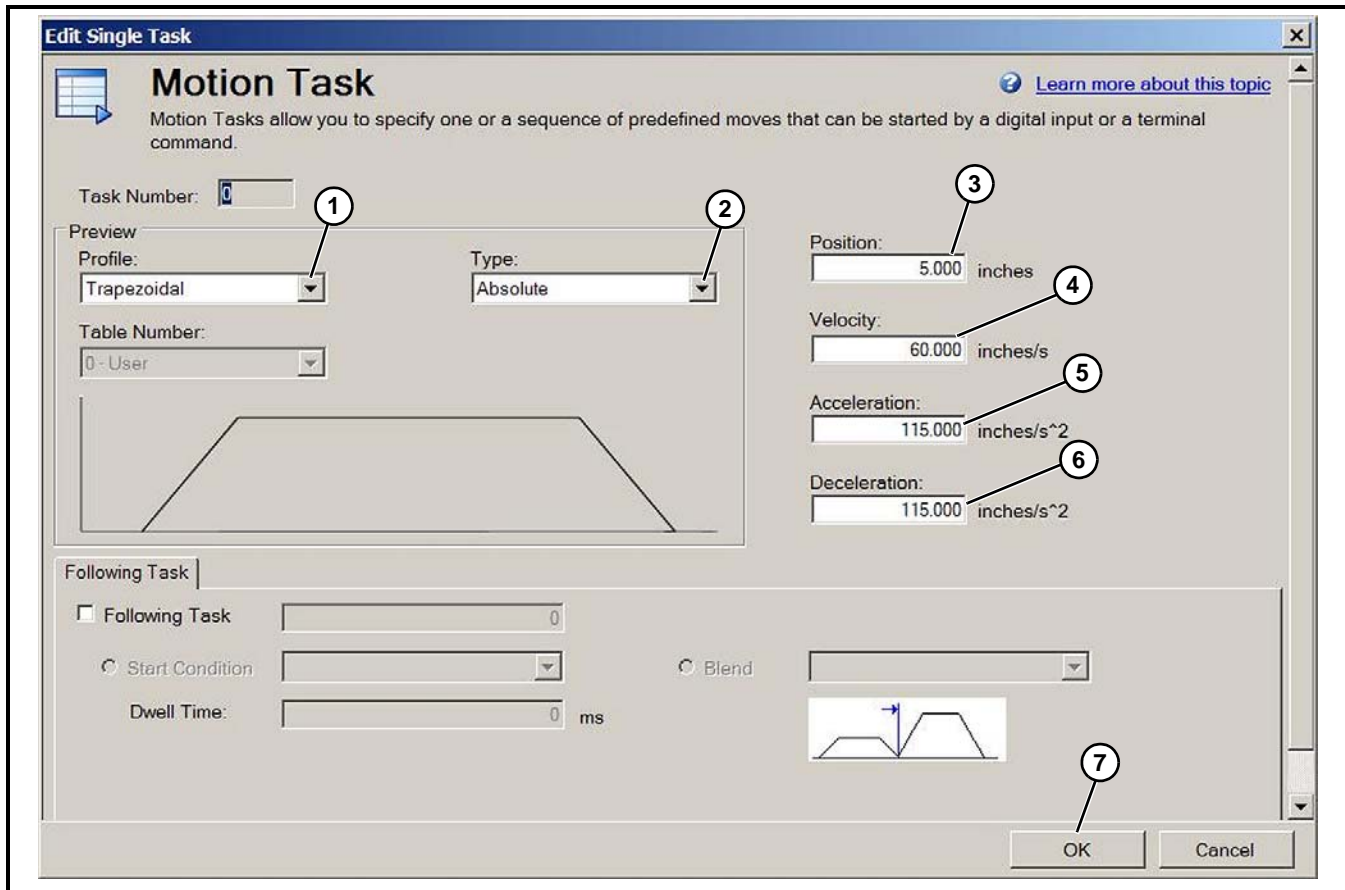

Figure 47
- **Profile:** (Figure 47, item 1) Usually Trapezoidal
- **Type:** (Figure 47, item 2) Per application (see “I. Homing Methods” on page 43).
- **Position:** (Figure 47, item 3) = distance to move
- **Velocity:** (Figure 47, item 4) = Speed conveyor travels at
- **Acceleration:** (Figure 47, item 5) = rate conveyor gets up to speed
- **Deceleration:** (Figure 47, item 6) = rate conveyor slows down
4. When done, click on **OK** (Figure 47, item 7).